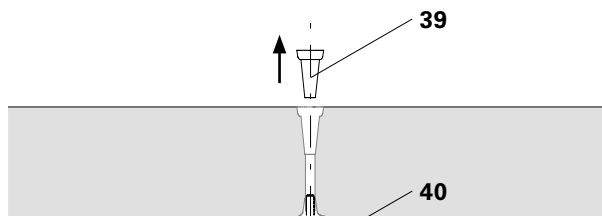

Fig. E1.02a
1. Release Climbing Cone-2 M24/DW 15 (39) by means of socket wrench SW 36.
2. Release Threaded Anchor Plate DW 15 (40) on the Climbing Cone-2 M24/DW 15 (39) using a hammer blow.
3. Hold the Threaded Anchor Plate DW 15 (40) from below and remove the Climbing Cone-2 M24/DW 15 (39) by means of Socket Wrench SW 36.
4. Pull the Threaded Anchor Plate and Tie Rod DW 15 downwards. (Fig. E1.02a)